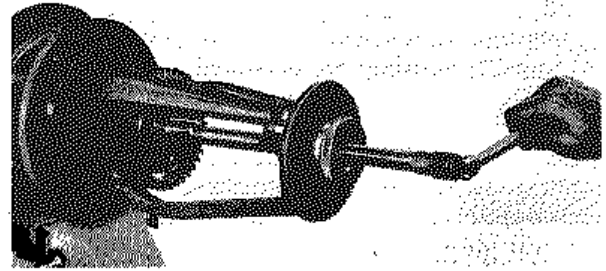

Fig. 10-6 - Drive Gear Removal
2. Remove drive gear end nut and washer. Apply gear puller, Fig. 10-6, and remove pump drive gear and key.